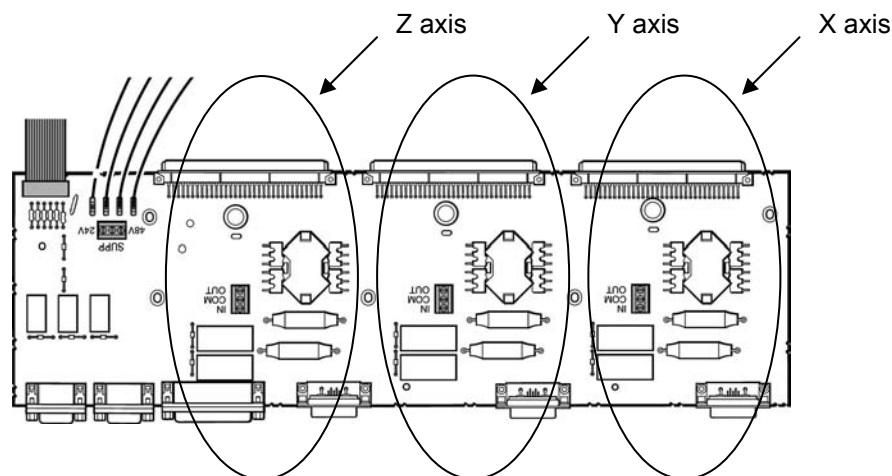

Figure 16 - SPA1 with top of enclosure removed
3. Identify the axis channel that requires the inductor to be removed from the drive system, these are shown in figure 16.